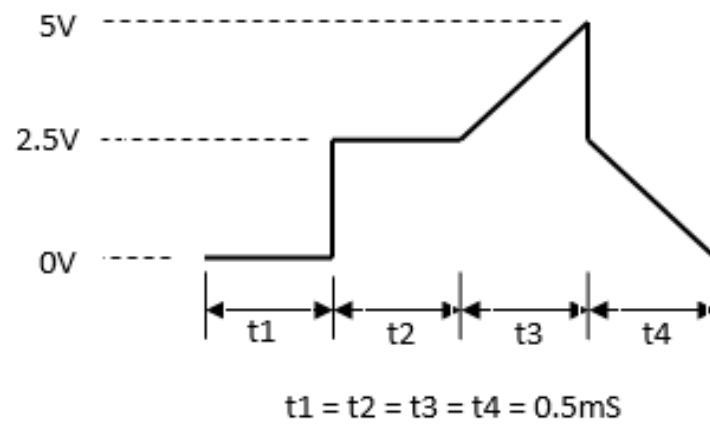

Fig. 1.0
4. (A) Making use of an optical sensor and hardware interrupt  $\overline{INT0}$  of the 8051 microcontroller, develop a hardware for product counter capable of counting up to 9999 products, and write an appropriate program for the system such that the count is updated in P1 of the 8051. 5
- (B) Making use of Timer-0 of the 8051 microcontroller, generate a delay of 0.5mS. Assume  $F_{osc} = 11.0592 \text{ MHz}$  3
- (C) How to de-multiplex the multiplexed address or data bus of the microcontroller 8051? Illustrate. 2
5. (A) Design a waveform generator using the 8051 microcontroller, and using the designed system, generate the periodic waveform shown in Fig. 1.0. 5
- (B) Implement an “IF-THEN” block for the ARM Cortex-M3 microcontroller to carry out the following function: 3